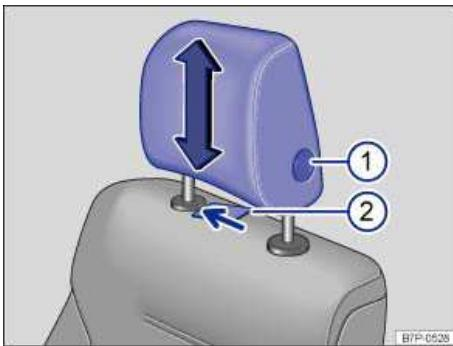

Fig. 47 Removing the front head restraints.
- Slide a flat object, such as a plastic credit card, underneath the right side of the cap on the right-hand seat guide rod ⇒ fig. 47 \(2\) to unlock the head restraint.
- To release the left-hand guide rod, press button (1) in (towards guide rod) and hold.
- Pull the head restraint out completely while holding button (1).